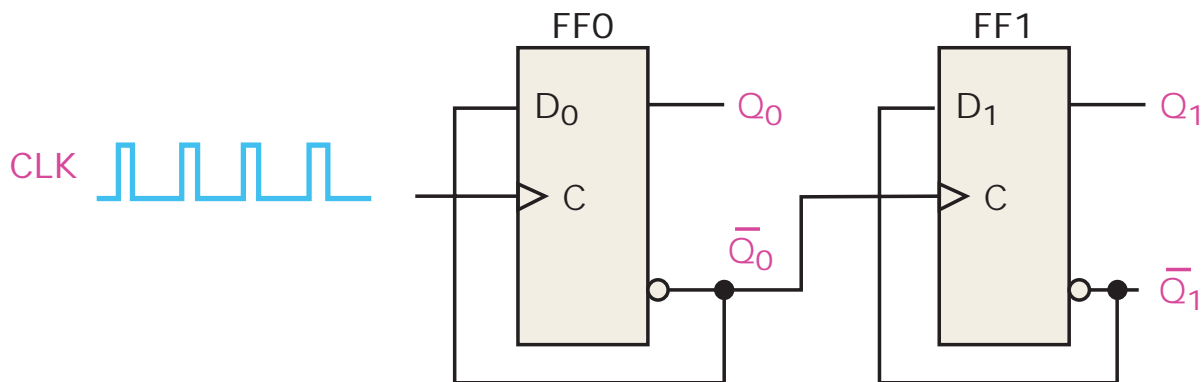

FIGURE 1.43 A 2-bit asynchronous binary counter
Figure 1.43 shows a 2-bit counter connected for asynchronous operation. Notice that the clock (CLK) is applied only to the clock input (C) of the first flip-flop FF0, which is always the least significant bit (LSB). The second flip-flop FF1 is triggered by the \bar{Q}_0 output of FF0. FF0 changes state at the positive-going edge of each clock pulse, but FF1 changes only when triggered by a positive-going transition of the \bar{Q}_0 output of FF0. Because of the inherent propagation delay time through a flip-flop, a transition of the input clock pulse (CLK) and a transition of the \bar{Q}_0 output of FF0 can never occur at exactly the same time. Therefore, the two flip-flops are never simultaneously triggered, so the counter operation is asynchronous.
TABLE 1.15 Binary state sequence for the counter shown in Fig 1.43
Since it goes through a binary sequence, the counter in Figure 1.43 is a binary counter. It actually counts the number of clock pulses up to three, and on the fourth pulse it recycles to its original state ($Q_0 = 0$, $Q_1 = 0$). The term recycle is commonly applied to counter operation, since it refers to the transition